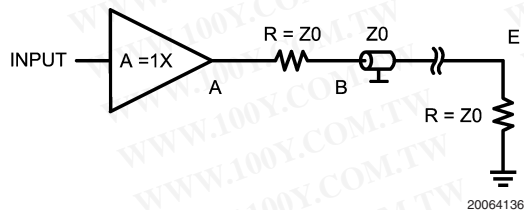
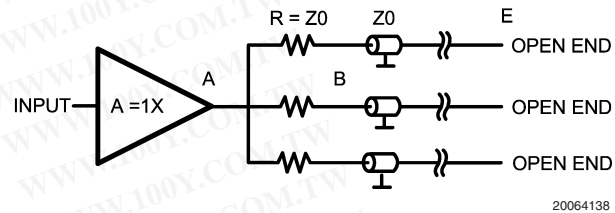
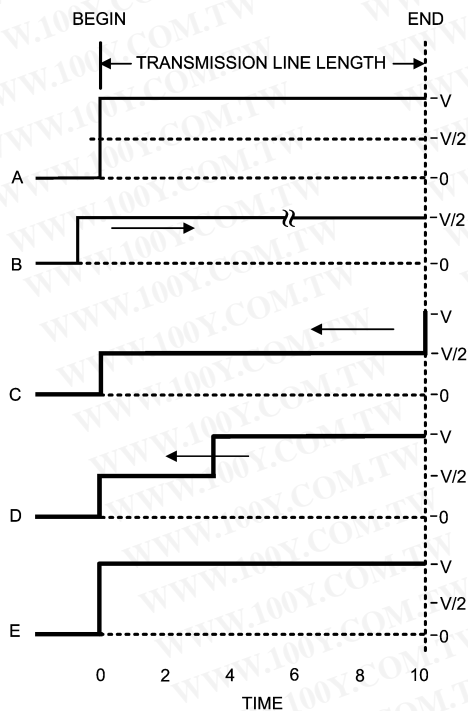

FIGURE 1.
FIGURE 3.
FIGURE 6.
- Use one buffer to drive one transmission line (see Figure 1)
- Use one buffer to drive several transmission lines each driving a different receiver. (see Figure 3)
In most cases, it is unrealistic to think that we can place a driver or buffer so close to the load that we don't need a transmission line to transport the signal. The pcb trace length between a driver and the load may affect operation depending upon the operating frequency. Sometimes it is possible to do measurements by connecting the DUT directly to the analyzer. As frequencies become higher the short lines from the DUT to the analyzer become long lines. When this happens there is a need to use transmission lines. The next point to examine is what happens when the load is connected to the transmission line. When driving a load, it is important to match the line and load impedance, otherwise reflections will occur and this phenomena will distort the signal. If a transient is applied at $T = 0$ (*Figure 6*, trace A) the resultant waveform may be observed at the start point of the transmission line. At this point (begin) on the transmission line the voltage increases to (V) and the wave front travels along the transmission line and arrives at the load at $T = 10$. At any point across along the line $I = V/Z_0$, where Z_0 is the impedance of the transmission line. For an applied transient of 2V with $Z_0 = 50\Omega$ the current from the buffer output stage is 40mA. Many vintage opamps cannot deliver this level of current because of an output current limitation of about 20mA or even less. At $T = 10$ the wave front arrives at the load. Since the load is perfectly matched to the transmission line all of the current traveling across the line will be absorbed and there will be no reflections. In this case source and load voltages are exactly the same. When the load and the transmission line have unequal values of impedance a different situation results. Remember there is another basic which says that energy cannot be lost. The power in the transmission line is $P = V^2/R$. In our example the total power is $2^2/50 = 80\text{mW}$. Assume a load of 75 Ω . In that case a power of 80mW arrives at the 75 Ω load and causes a voltage of the proper amplitude to maintain the incoming power.
Many applications, such as video, use a series resistance between the driver and the transmission line (see *Figure 1*). In this case the transmission line is terminated with the characteristic impedance at both ends of the line. See *Figure 6* trace B. The voltage traveling through the transmission line is half the voltage seen at the output of the buffer, because the series resistor in combination with Z_0 forms a two-to-one voltage divider. The result is a loss of 6dB. For video appli-
Another way to reach several points via a transmission line is to start several lines from one buffer output (see *Figure 3*). This is possible only if the output can deliver the needed current into the sum of all transmission lines. As can be seen in this figure there is a series termination used at the beginning of the transmission line and the end of the line has no termination. This means that only the signal at the endpoint is usable because at all other points the reflected signal will cause distortion over the line. Only at the endpoint will the measured signal be the same as at the startpoint. Referring to *Figure 6* trace C, the signal at the beginning of the line has a value of $V/2$ and at $T = 0$ this voltage starts traveling towards the end of the transmission line. Once at the endpoint the line has no termination and 100% reflection will occur. At $T = 10$ the reflection causes the signal to jump to 2V and to start traveling back along the line to the buffer (see *Figure 6* trace D). Once the wavefront reaches the series termination resistor, provided the termination value is Z_0 , the wavefront undergoes total absorption by the termination. This is only true if the output impedance of the buffer/driver is low in comparison to the characteristic impedance Z_0 . At
this moment the voltage in the whole transmission line has the nominal value of 2V (see Figure 6 trace E). If the three transmission lines each have a different length the particular point in time at which the voltage at the series termination resistor jumps to 2V is different for each case. However, this transient is not transferred to the other lines because the output of the buffer is low and this transient is highly attenuated by the combination of the termination resistor and the output impedance of the buffer. A simple calculation illustrates the point. Assume that the output impedance is 5Ω. For the frequency of interest the attenuation is $V_B/V_A = 55/5 = 11$, where A and B are the points in Figure 3. In this case the voltage caused by the reflection is $2/11 = 0.18V$. This voltage is transferred to the remaining transmission lines in sequence and following the same rules as before this voltage is seen at the end points of those lines. The lower the output resistance the higher the decoupling between the different lines. Furthermore one can see that at the endpoint of these transmission lines there is a normal transient equal to the original transient at the beginning point. However at all other points of the transmission line there is a step voltage at different distances from the startpoint depending at what point this is measured (see trace D).